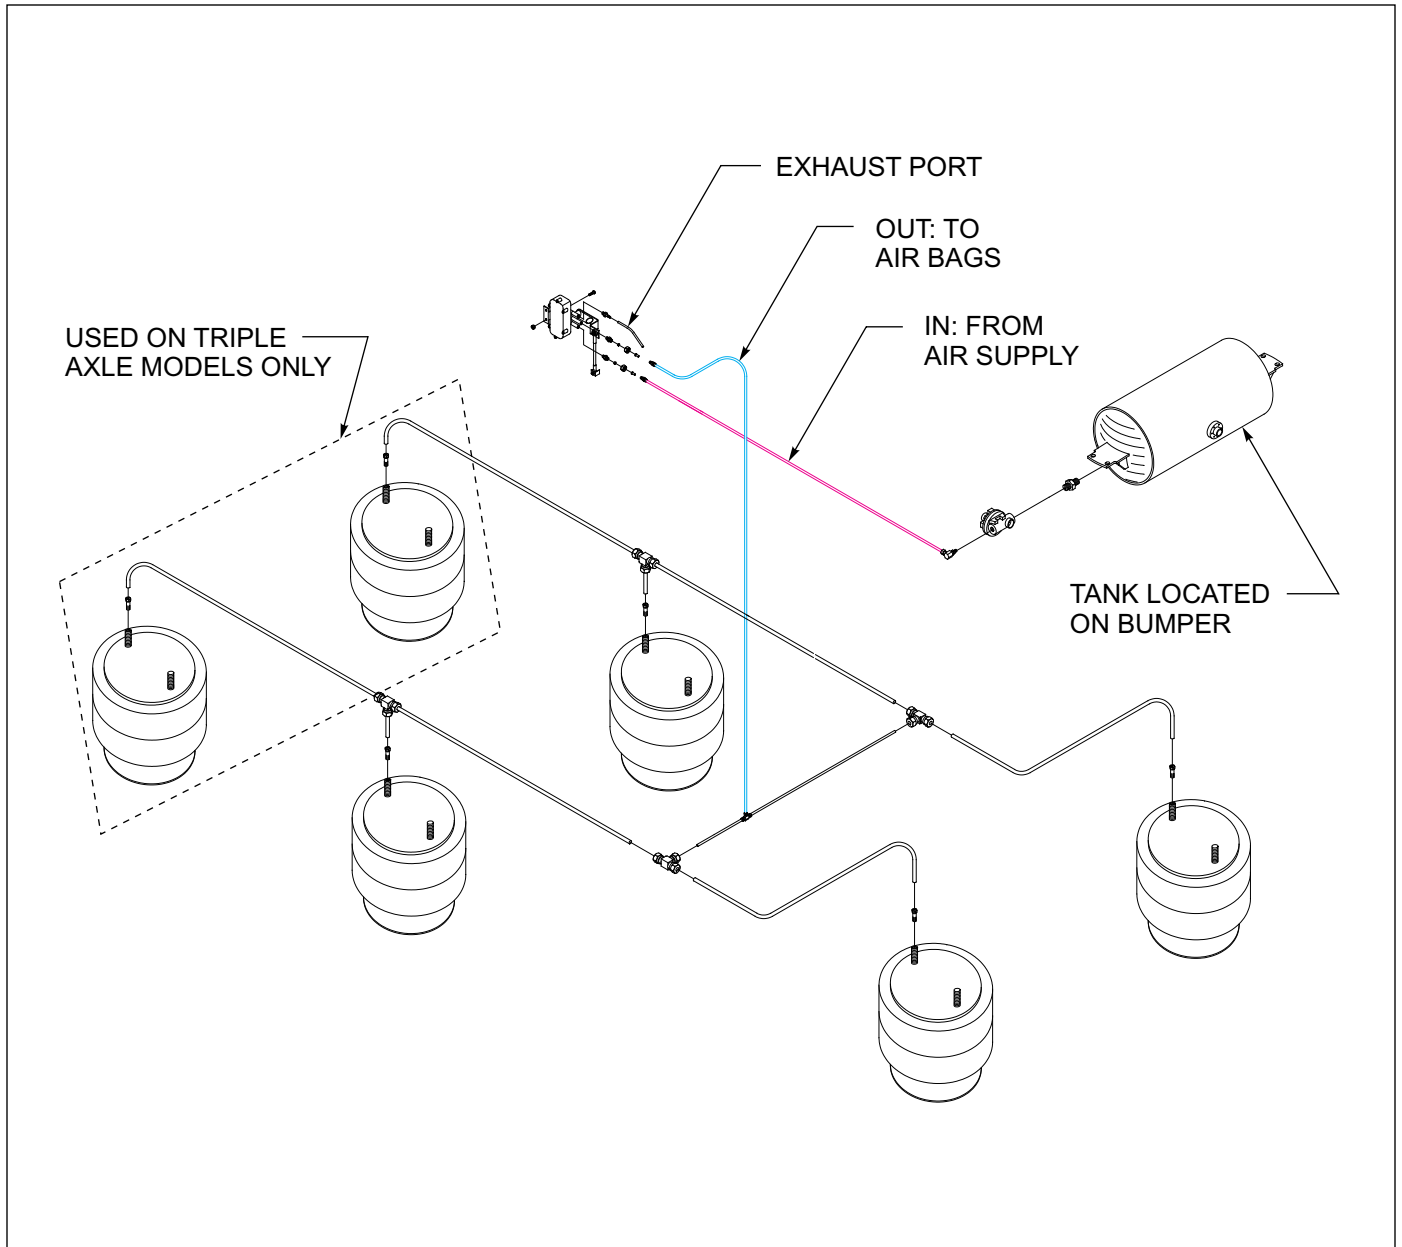

Figure 4-3: Tandem Axle Air Ride Suspension System
1. (See Figures 4-3 and 4-5) for Tandem and Triple Axle Air Ride Suspension drawings.